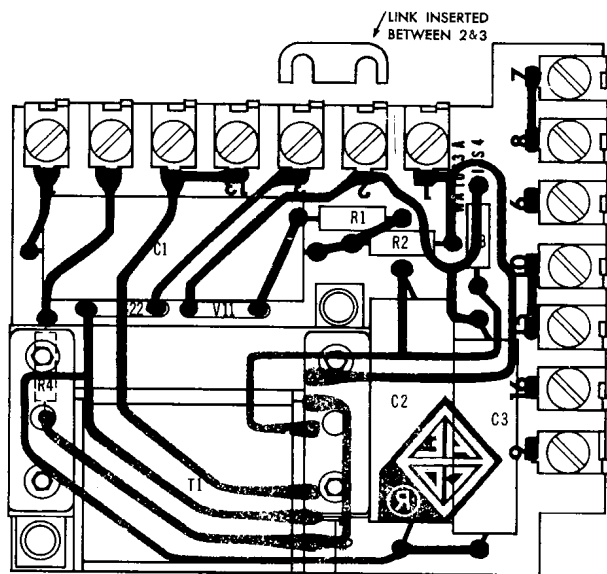

Figure 4. Physical Arrangement of Printed Circuit Board.
2.27 The transmission network components in NC-852 sets, consist of an anti-sidetone induction coil, two silicon carbide varistors, four resistors and three capacitors. These components are mounted on a printed-wiring board and interconnected by circuit lines of copper sheet laminated to the underside of the board. The complete transmission unit is supported along its terminal edges by an L-shaped styrene bracket arranged with tabs which snap over the board at three points. The printed wiring board is fastened to the telephone set base by screws passing through mounting brackets at two corners of the induction coil. The physical arrangement of this transmission unit is shown in Figure 4.